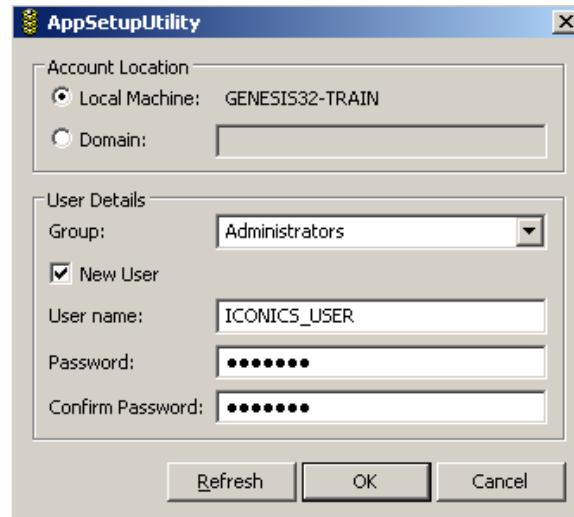

Figure L1.5 - Application Setup Utility
8. The Setup Status window will show you the progress of the installation. During this step, the Application Setup Utility will launch. You can choose to create the new “ICONICS_USER” (see Figure L1.5) or choose an existing user on the system.